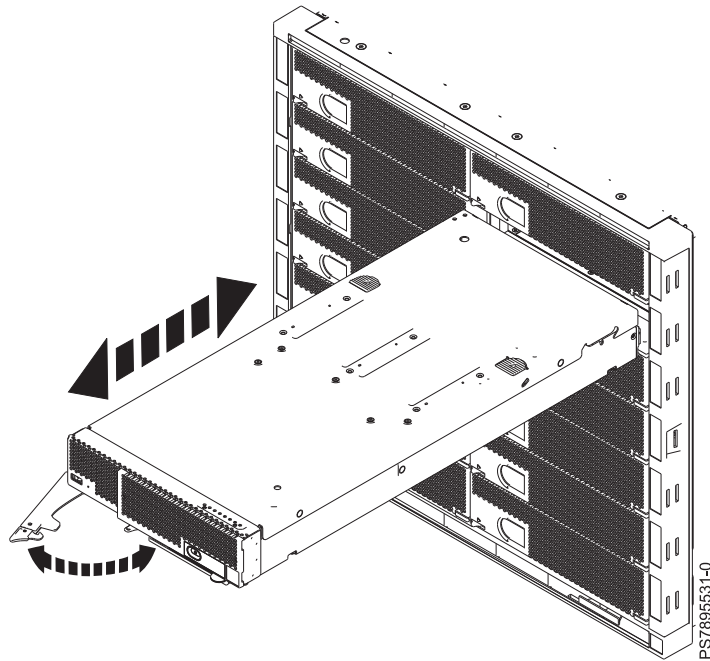

Figure 5. Removing the compute node from the IBM Flex System Enterprise Chassis
5. Open the release handles, as shown in Figure 5 on page 29. There is one release handle. The compute node can be moved out of the bay approximately 0.6 cm (0.25 inch).